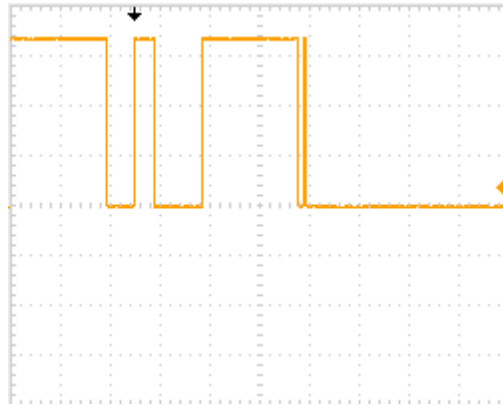
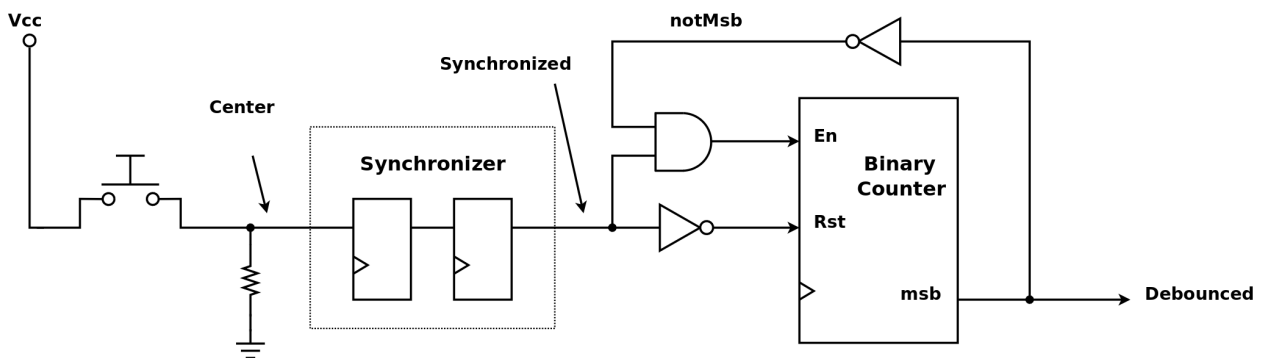

Figure 3: Electrical Chatter
Figure 4: Simple Debounce Circuit
Up to this point, we have assumed that switches and push-buttons, used for receiving input from the user, are ideal in terms of the output signals that they produce. Unfortunately, this is not the case in the real world because these devices rely on less than ideal electromechanical contacts to generate electrical signals from mechanical events. Electrical chatter as seen in Figure 3 is generated every time a switch is flipped or a button is pressed. This chatter (a.k.a switch bounce) consists of several short duration pulses, which appear as a bouncing signal in the interval immediately after the electromechanical contacts are brought together.
3. If the Seconds per Division setting for Figure 3 was set to 1 ms/div, what do you think would be a good bit width for the counter in Figure 4, assuming a 50 MHz clock signal was driving the counter? Explain your answer.